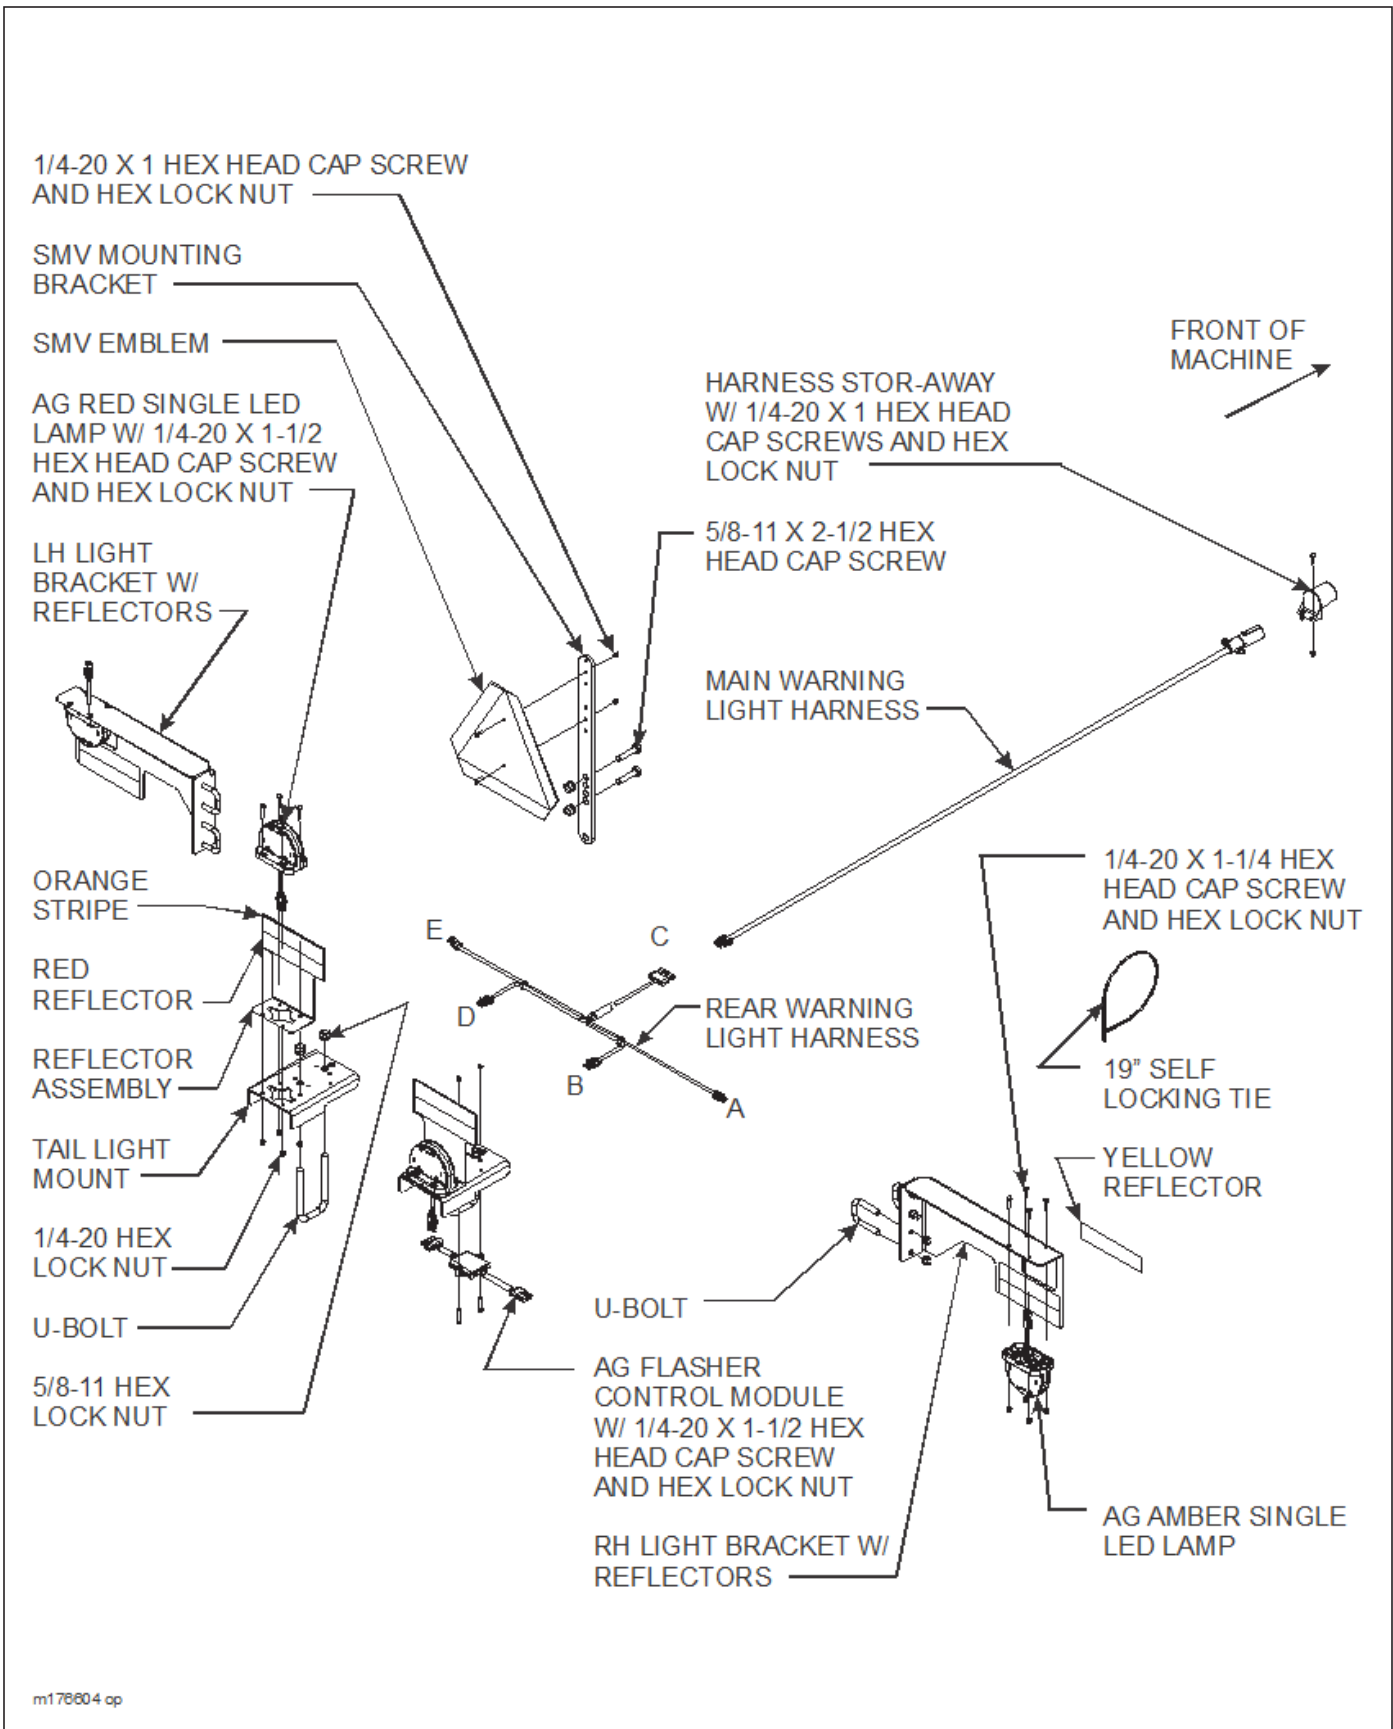

Figure 3-7: LED Light and SMV Bracket Installation (After August, 2013)
1. Attach left and right light brackets with reflectors to center frame using u-bolts and hex lock nuts (**See Figure 3-7**) The yellow reflectors will face forward on the machine. Note that the ag amber single LED lamps are already assembled in the brackets.